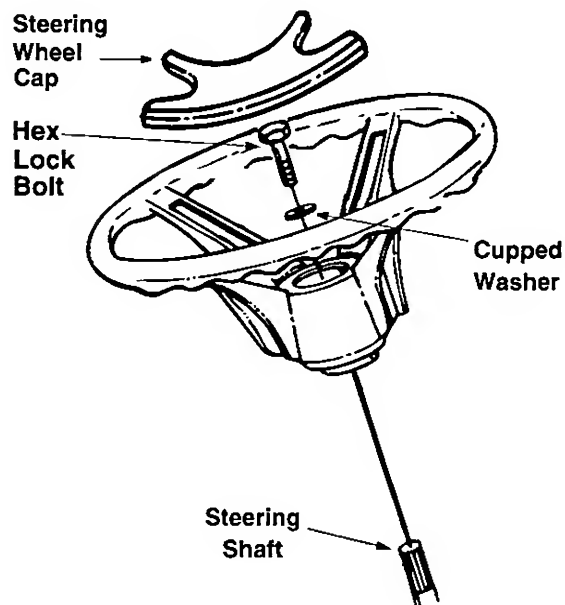

Figure 3
2. With the wheels of the tractor pointing straight forward, place the steering wheel over the steering shaft, positioning steering wheel as desired. See Figure 3.